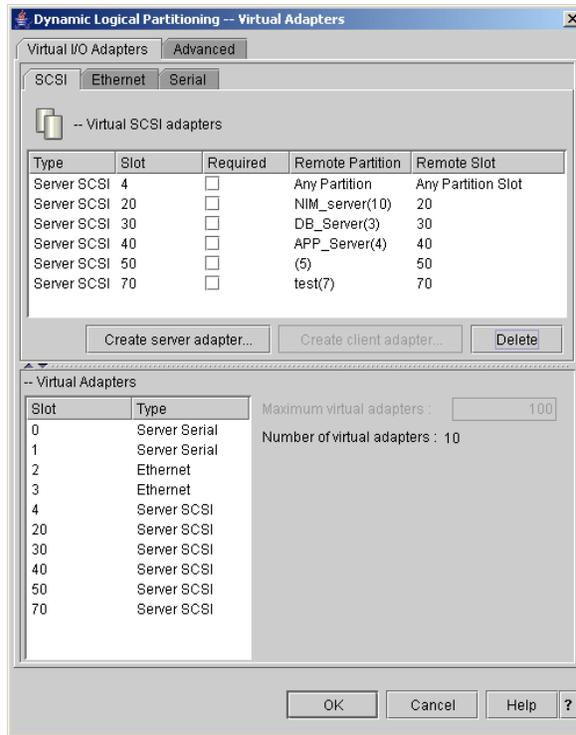

Figure 5-3 Dynamically create server adapter window
5. Figure 5-3 shows you the Virtual adapters window.